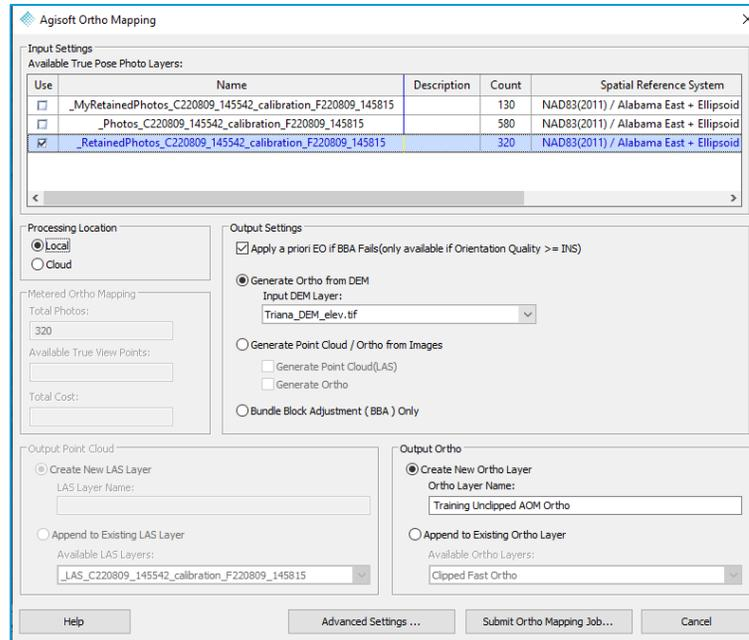

Figure 111 – Agisoft Ortho Mapping dialog
2. Select **Agisoft Ortho Mapping**  on the Sensor tab (Figure 110) to open the Agisoft Ortho Mapping dialog (Figure 111). **Note:** To enable this tool requires a "Full Photo", "Photo with Agisoft", or "Photo3000" addon license be checked out in addition to the LP360 Drone license.